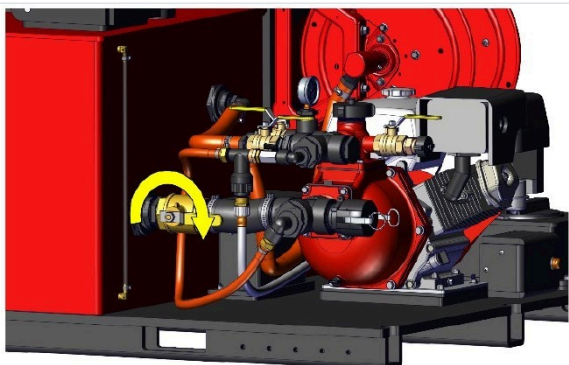

Figure 9. 2" Tank to Pump valve set to draft
1. **Set the 2" Tank to Pump valve to pull from the draft port (Figure 9). Make sure the pump head is primed** (see *Priming the Pump*).